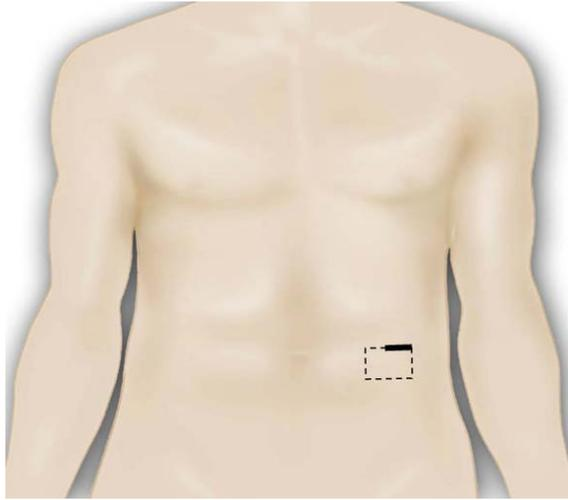

Figure 7 Skin Incision (solid line) and IPG subcutaneous pocket (dotted line)
Determine the surgical site for implanting the IPG. Discuss the position with the patient so they are comfortable with the location of the device and surgical scar with regard to sleeping, posture, and exposure. It is recommended to make a horizontal incision of 4.0 cm at the level of the upper edge of the umbilicus (Figure 7). Mark the surgical area before scrubbing and prepping the patient for the procedure.
2. Make the incision along the skin mark drawn earlier (Figure 7).